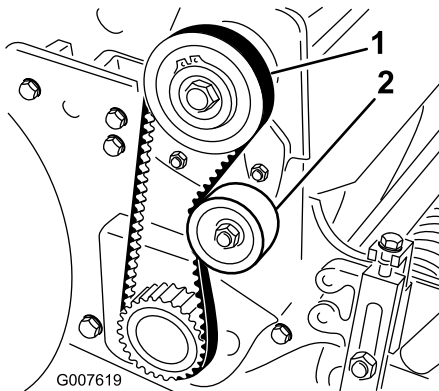

Figure 35
2. Check the tension by pressing the belt at mid span of the pulleys (Figure 35) with 18–22 N (4 to 5 lbs) of force. The belt should deflect 6 mm (1/4 inch).
- A. Loosen the idler pulley mounting nut and pivot the idler pulley clockwise against the backside of the belt until you attain the desired belt tension (Figure 35).